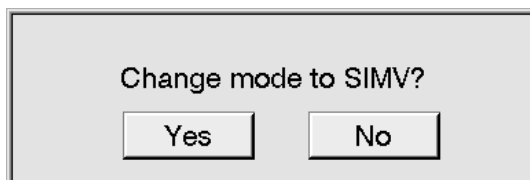

Figure 8-32: Mode Change Confirmation Message
- The ventilator asks you to confirm the mode change (Figure 8-32). Press YES to confirm, or press NO to leave the mode as is.